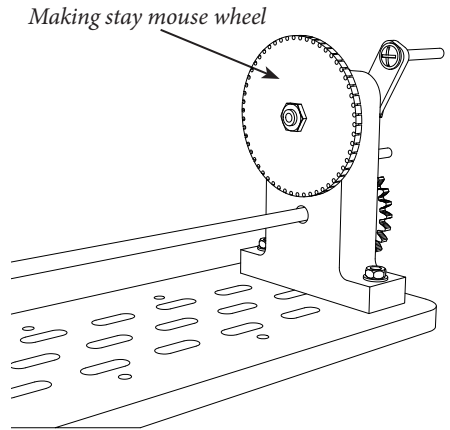

Figure 3.
8. To make diamond knot replace M6 lock nuts with making stay mouse wheels provided (**fig. 3**).